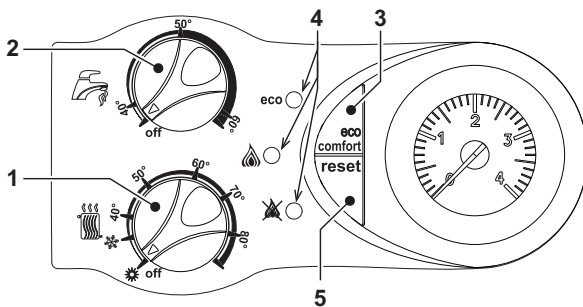

fig. 1 - Control panel
If the burners do not light and the "block" indicator (ref. 4 -fig. 1) comes on, press the RESET button. The control unit will repeat the ignition cycle in the next 30 seconds. If the burners do not light after the third attempt, refer to sec. 4.4.